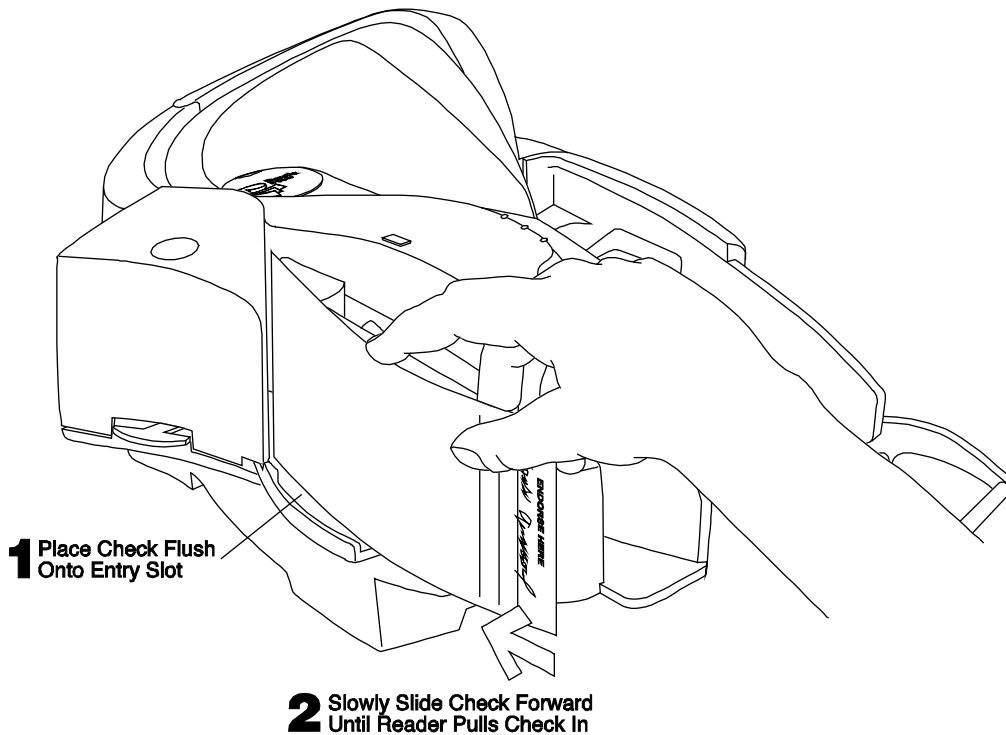

Figure 3-1. Check Orientation - Insertion
1. With the front of the check facing the center of the unit and the MICR line closer to the bottom, feed the check into the **Manual Single Feed Input Slot**, as shown in Figure 3-1.